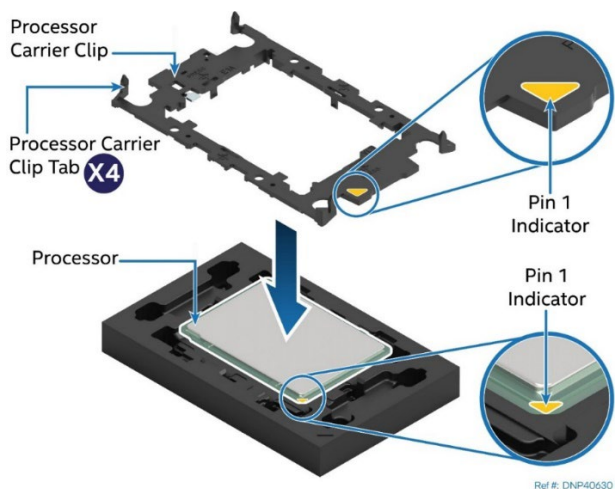

Figure 12. Installing Processor Carrier Clip onto Processor—Part 1
1. Position the Pin 1 indicator of the carrier clip with the Pin 1 indicator of the processor (See Figure 12).